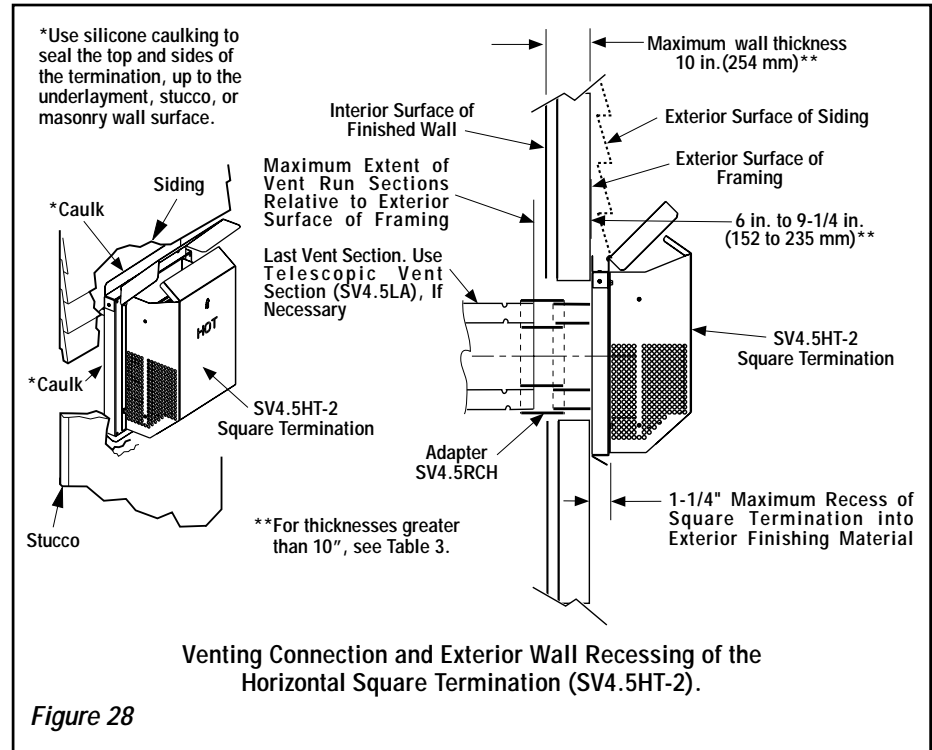

Figure 28
L. Assemble vent run to exterior wall - If not previously measured, locate the center of the vent at the exterior wall. Prepare an opening as described in **Step D**. Assemble the vent system to point where the terminus of the last section is within 7 in. (178 mm) to 11-1/4 in. (286 mm) inboard of the exterior surface to which the SV4.5 HT-2 termination is to be attached, see **Figure 28**.
If the terminus of the last section is not within this distance, use the **telescopic vent section SV4.5LA**, as the last vent section. For wall thicknesses greater than that shown in **Figure 28**, refer to **Table 3 on page 18**. This table lists the additional venting components needed (in addition to the termination and adapter) for a particular range of wall thicknesses.
1. Install the square termination (SV4.5HT-2) - For the last step, from outside the exterior wall, slide the collars of the termination onto the adapter (the outer over the outer and the inner inside the inner) until the termination seats against the exterior wall surface to which it will be attached. Orient the housing of the termination with the arrow pointed upwards. Secure the termination to the exterior wall. **The horizontal termination must not be recessed into the exterior wall or siding** by more than the 1-1/4" (32 mm) as shown in **Figure 28**.